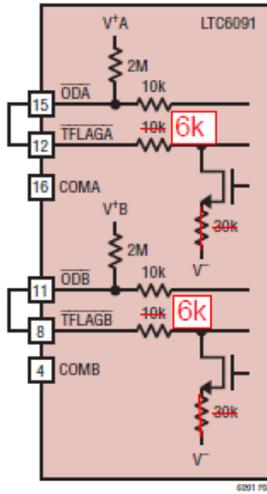

Figure 4. Automatic Thermal Output Disable Using the TFLAG Pins
- For simplest operation, float both channel's COM pins (COMA and COMB), and connect $\overline{\text{ODA}}$ to $\overline{\text{TFLAGA}}$, and $\overline{\text{ODB}}$ to $\overline{\text{TFLAGB}}$ as shown in Figure 4. Both output stages will be safely disabled should the die temperature reach approximately 145°C . Both COM pins may be tied to ground in this configuration so long as V^- is biased more negatively than -3V with respect to ground for proper thermal shutdown operation.